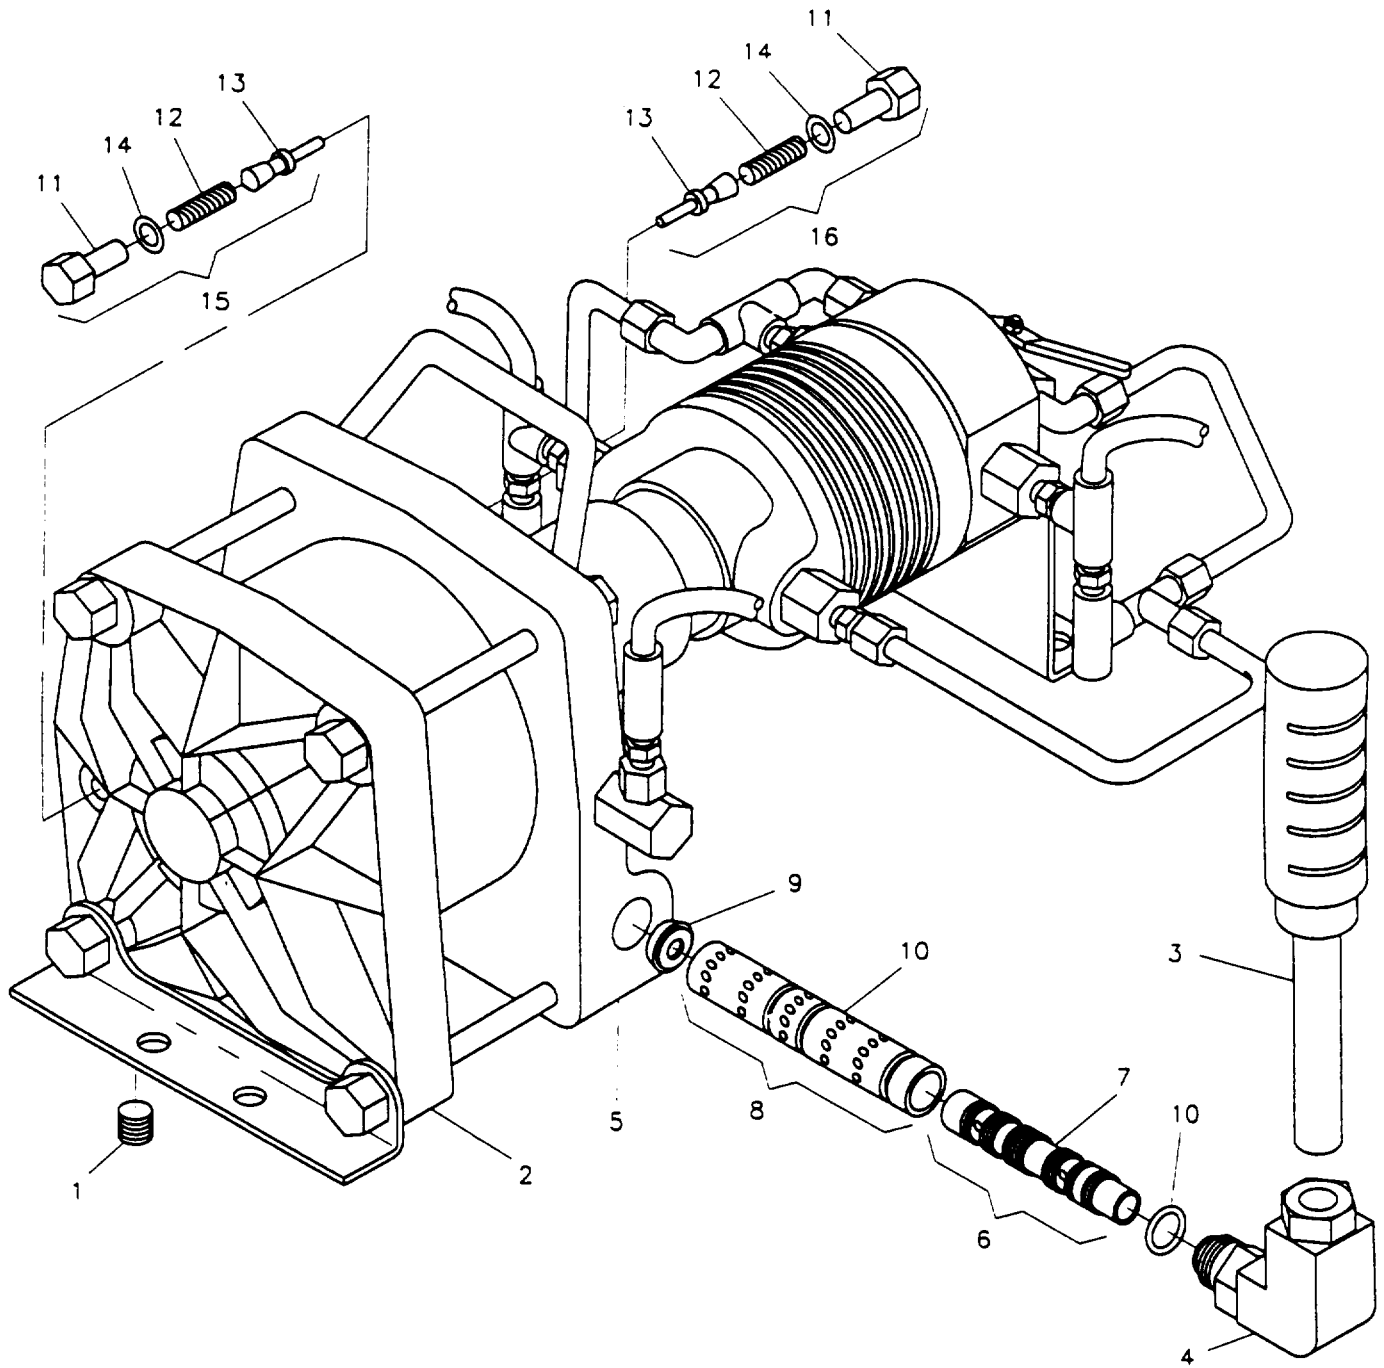

Figure 5-8. Transfer Pump Unit Repair
5-9. TRANSFER PUMP UNIT REPAIR. (Refer to Figure 5-8)
5-9.2. Air Valve Repair. (Refer to Figure 5-8)
**5-10. BASE ASSEMBLY REPAIR. (Refer to Figure 5-8)**